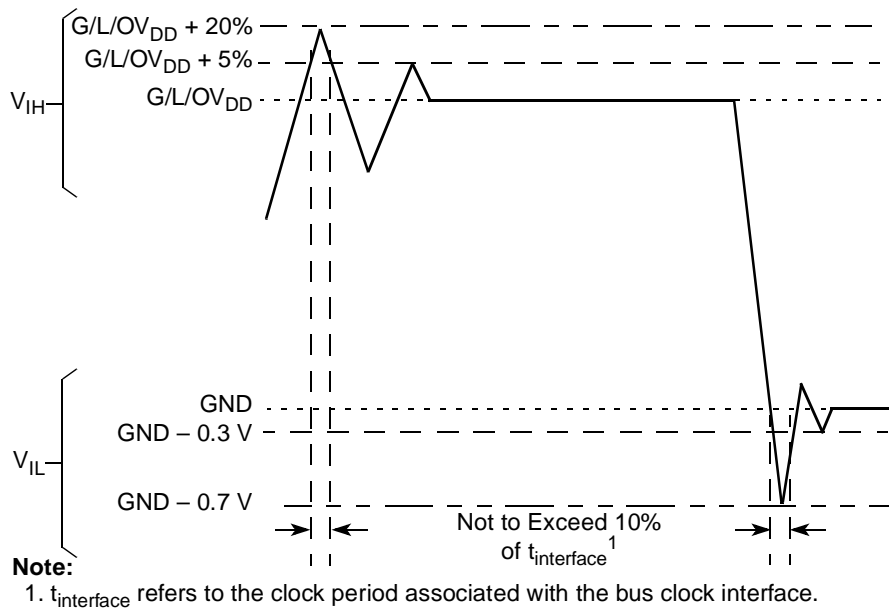

Figure 2. Overshoot/Undershoot Voltage for $GV_{DD}/OV_{DD}/LV_{DD}$
- (M,L,O) V_{IN} and MV_{REF} may overshoot/undershoot to a voltage and for a maximum duration as shown in Figure 2.
Figure 2 shows the undershoot and overshoot voltages at the interfaces of the MPC8347E.